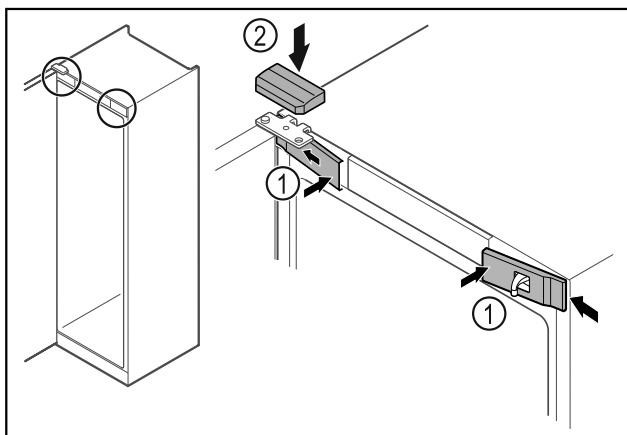

Fig. 52
- Hook in the front covers Fig. 52 (1) on the side and snap them into place.
- Snap on the top cover Fig. 52 (2) from above.